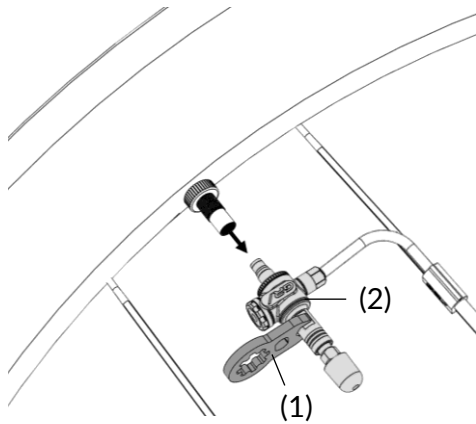

Figure 17: Remove the GRAVAA valve adapter from the valve stem
4. Place the GRAVAA valve tool (1) onto the GRAVAA valve adapter (2) as shown in Figure 17.